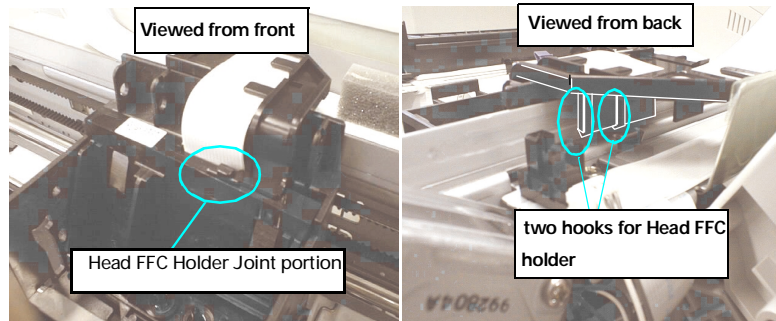

Figure 4-9. Head FFC Holder
- When you assemble the Head FFC holder, be sure that the two hooks of the Head FFC holder and the one joint portion are secured to the CR unit. See Figure 4-9.